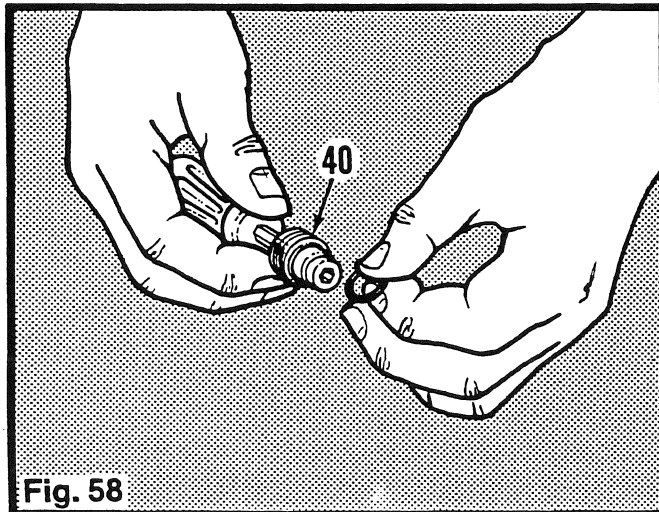

Fig. 58
7. Install a new O ring on the seat (40). (Fig. 58)